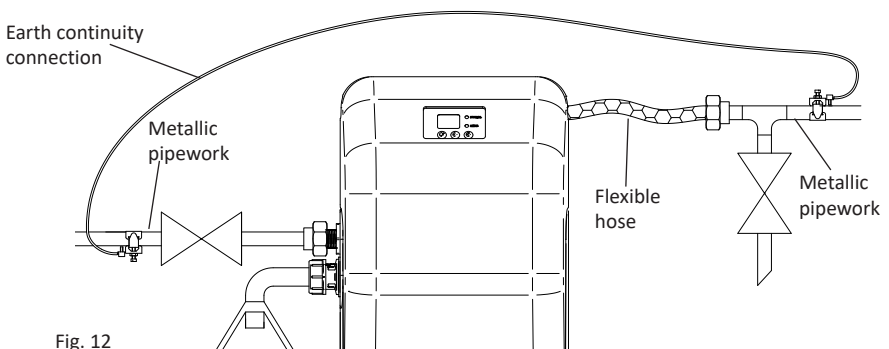

Fig. 12
- 5.15 **Adjacent pipes:** Adjacent suction and delivery pipes should be fitted with earthing clamps in accordance with current regulations (Fig. 12).